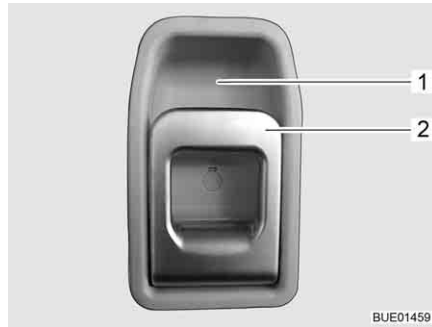

Fig. 46 Door lock of conversion door, inside
- Opening:** ■ Pull on the handle (Fig. 46,2). The door lock is unlatched.
- Locking:** ■ Press the upper part of the handle (Fig. 46,2) in the direction of the recessed handle (Fig. 46,1).